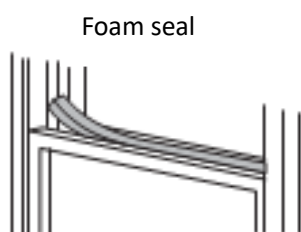

Fig. 11
5. Cut the foam seal to an appropriate length and seal the open gap between the top window sash and outer window sash. Shown as in Fig.11